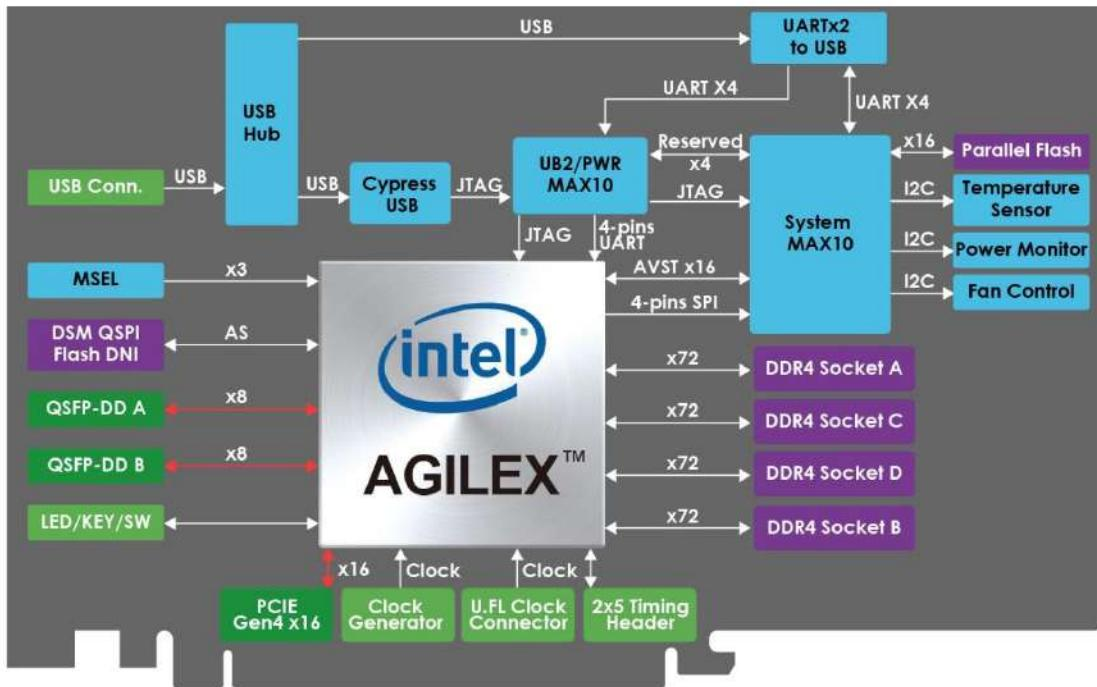

Figure 1-1 Block diagram of the DE10-Agilex board
**Figure 1-1** shows the block diagram of the DE10-Agilex board. To provide maximum flexibility for the users, all key components are connected to the Agilex™ FPGA device. Thus, users can configure the FPGA to implement any system design.